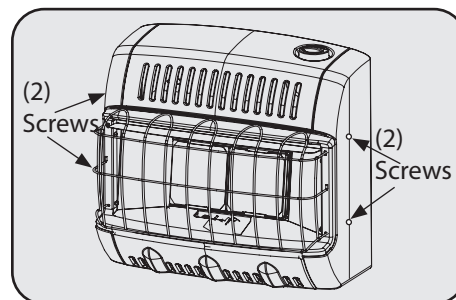

Figure 6
1. Remove (4) screws total there are (2) screws on either side of the heater. See Figure 6.